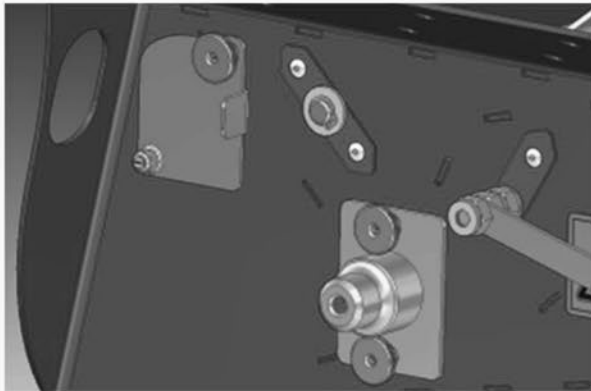

Figure 30
- Install the disassembled parts again in the reverse sequence (Figure 30).